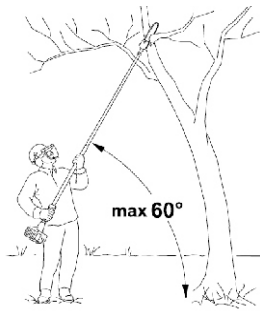

Fig. 31b
3. Always hold the product at an angle of not more than 60° from the horizontal level. Otherwise safe operation is not possible. (See Fig. 31b)